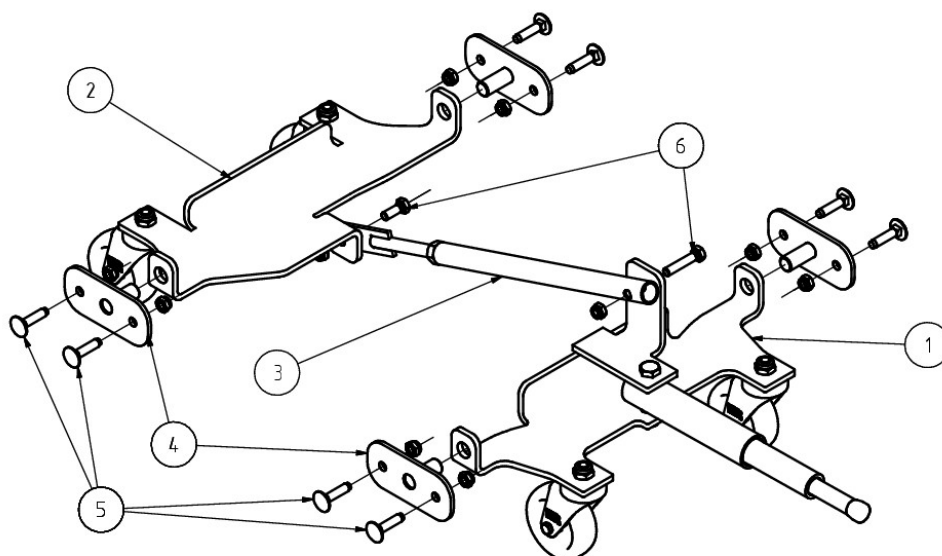

Fig. 2: Sport-Thieme "Vario" swivel castor device
To fit the swivel castor device (Fig. 2), first insert the axle bearings ④ into the tube ends of the two-wheel sets ① and ②. Then place the wheel sets ① and ② together with the axle bearings ④ in the lower part of the box. Insert the telescopic handle into the recess provided in the front wall.